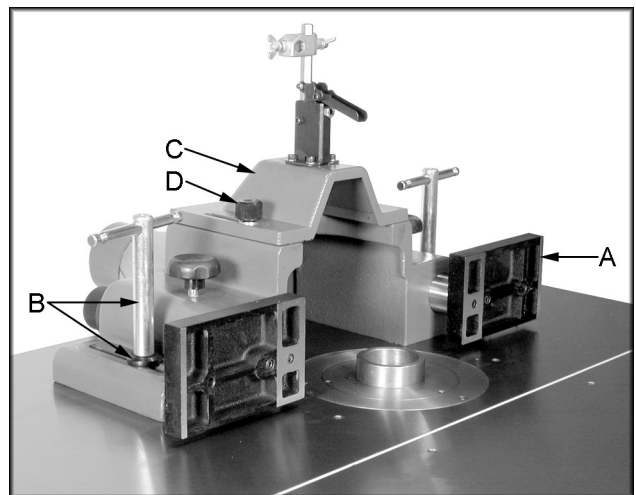

Figure 3
1. Place fence assembly (A, Figure 3) on the table.
2. Secure fence with two T-handles and washers (B, Figure 3).
3. Mount the cover plate (C, Figure 3) using the two locking knobs (D, Figure 3) and flat washers.